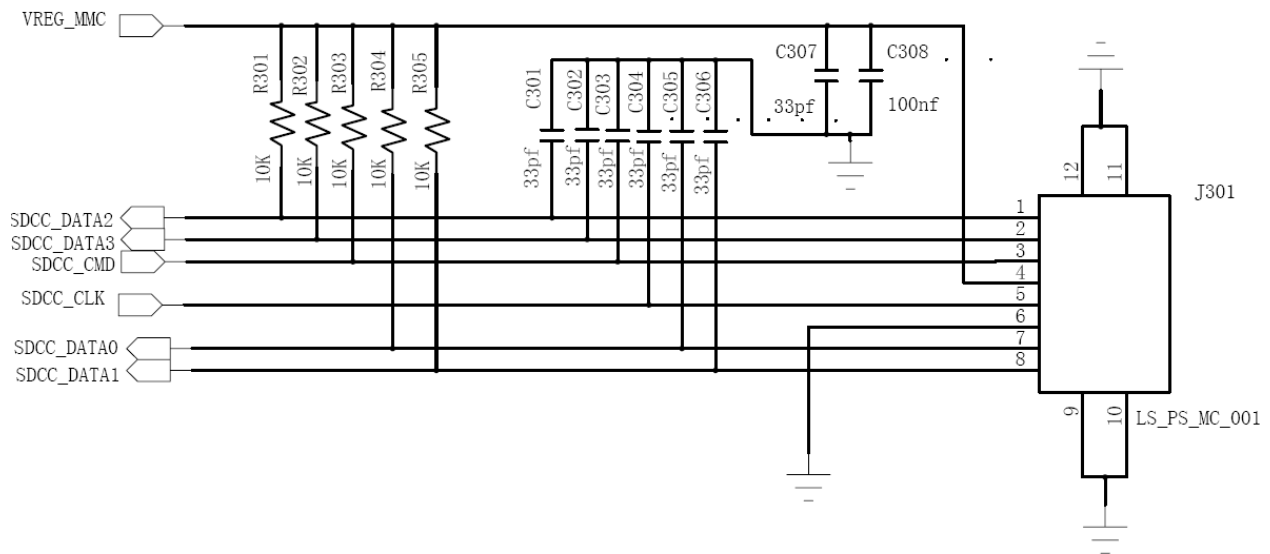

Figure 2-9 The reference circuit of Micro SD card interface
The reference circuit of Micro SD card interface is shown in Figure 2-9.
- 1) The data line of Micro SD such as SDCC_DATA0, SDCC_DATA1, SDCC_DATA2, SDCC_DATA3 and SDCC_CMD, should be connected to Micro SD card power supply by pull-up resistors with reference value 10K Ω . Just like R304, R305, R301, R302 and R303 in Figure 2-9.
- 2) To get more flat Micro SD card power supply, it is recommended to use filter capacitors. Just like C307 and C308 in Figure 2-9, and the reference values are 33pF and 100nF.
- 3) To eliminate high-frequency interference, it is recommended to use capacitors for Micro SD card data line, such as SDCC_DATA0, SDCC_DATA1, SDCC_DATA2, SDCC_DATA3 and SDCC_CMD、SDCC_CLK. Just like C301, C302, C303, C304, C305 and C306 in Figure 2-9.